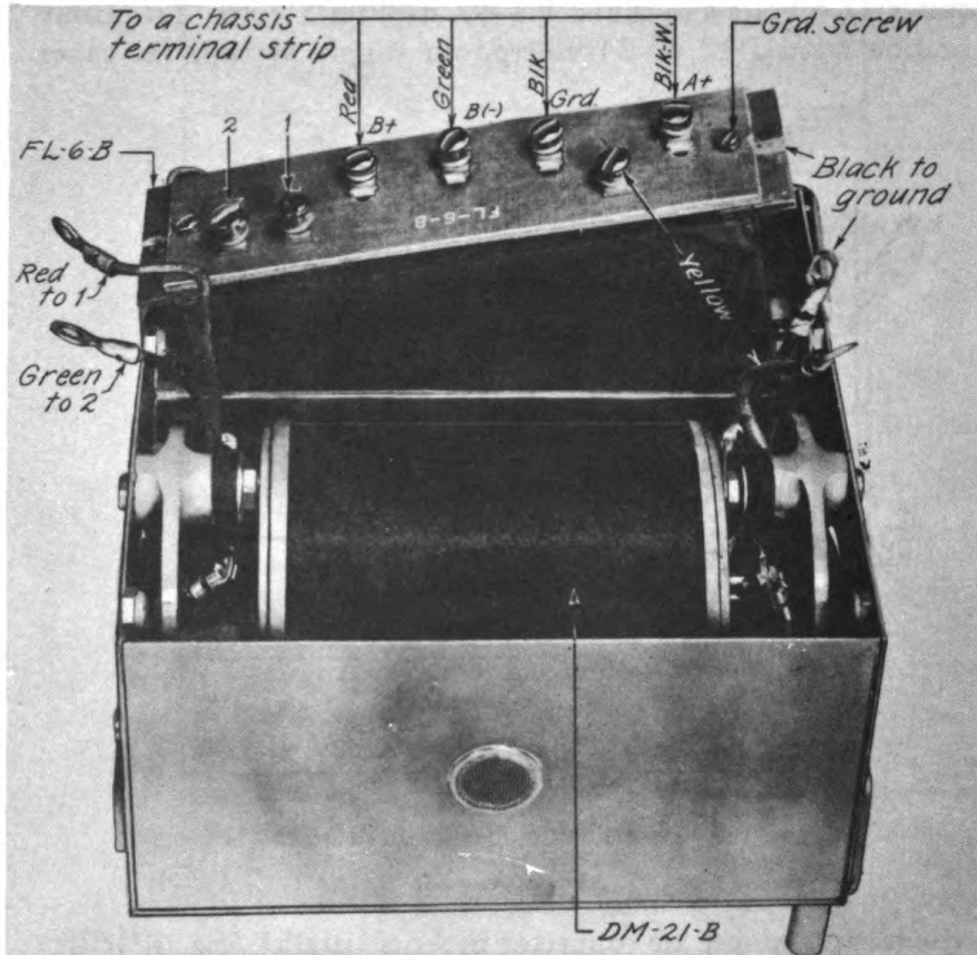

Figure 20.—Dynamotor DM-21-(\*) as used in BC-312-(\*) and BC-314-(\*) .
26. Dynamotor DM-21-(\*) (figs. 20 and 21).—
**27. Dynamotor DM-21-CX (figs. 20 and 21).—**